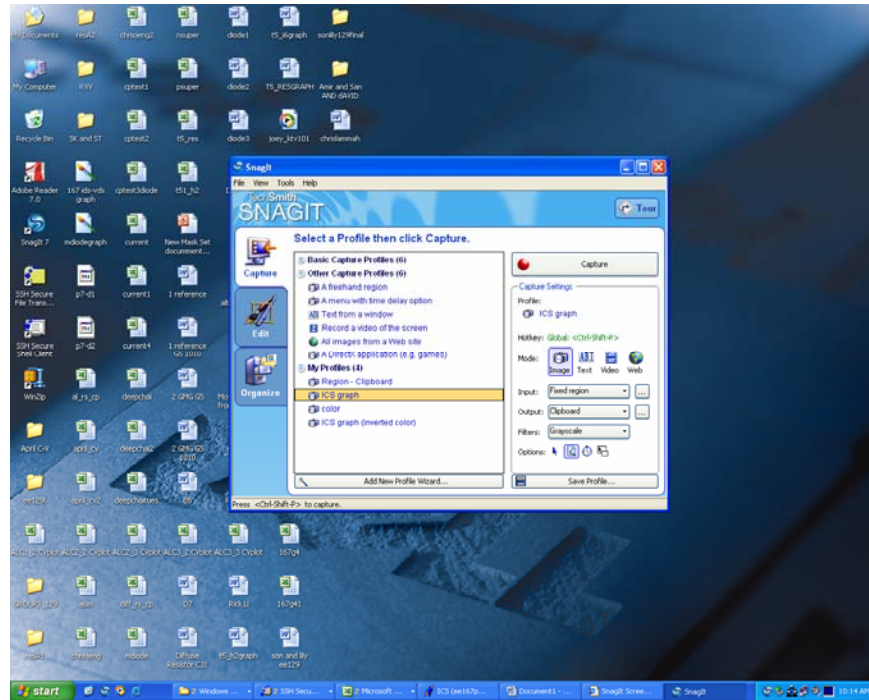

Figure 65: SnagIt Window
3. After opening the SnagIt, the window should look like Figure 65.
1. In the SnagIt Window in Figure 65, choose a profile on the list.